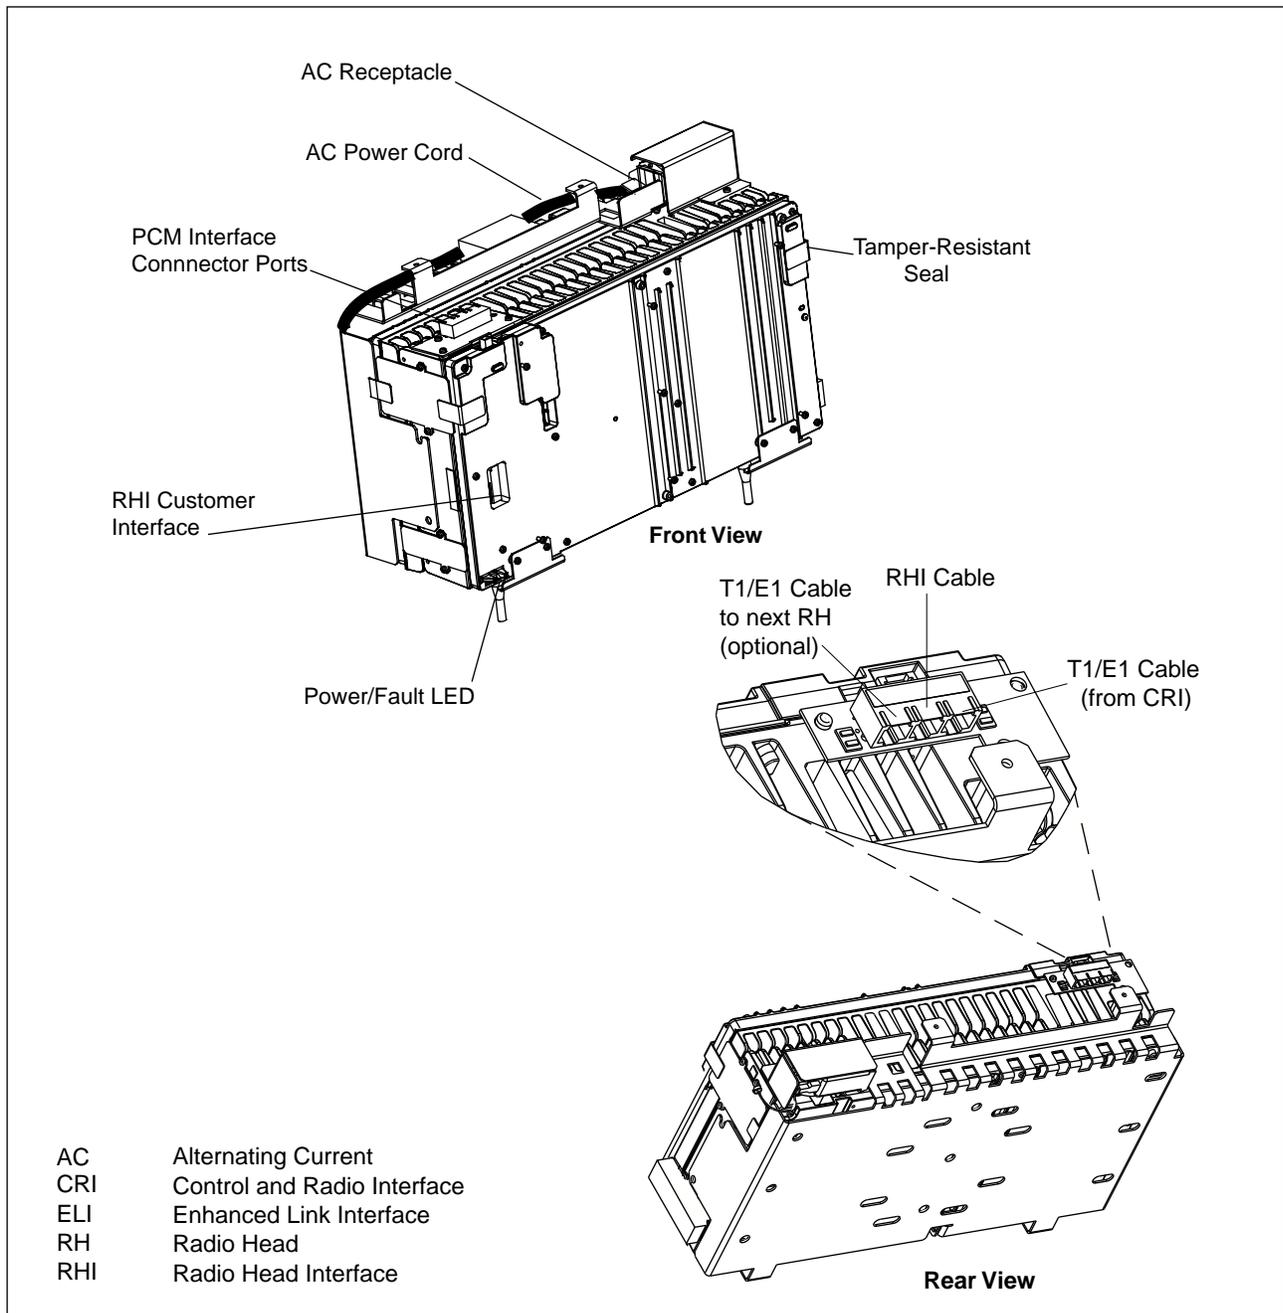

Figure 6-14. Radio Head Connectors
4. Unplug the AC power cord from the AC receptacle on the back of the Radio Head. See Figure 6-14 on page 6-43 for the location of the AC receptacle.
21. Reconnect the PCM cable to the RJ-45 connector on the Radio Head. See Figure 6-14 on page 6-43.